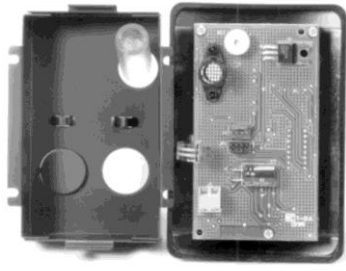

Figure 3:
Installation of the AirGard® 200 monitor generally requires the fume hood to have a cut out section as shown in Figure 3.
Step 3: Snap in the snap bushing supplied onto the hole used for the power connection in the back enclosure and mount in the cut out on the fascia with 4 screws supplied. See Figure 3.